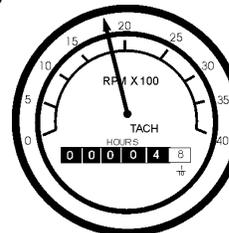

Figure 53. Engine Tachometer Gauge
- The **tachometer gauge** (Figure 53) will indicate the speed of the engine when the generator is operating. Under normal operating conditions this speed is approximately 1800 RPM's.